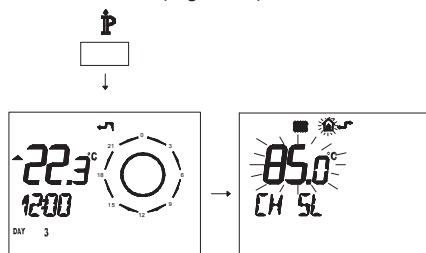

Fig. 7.25
- Press button **P** for more than 3 seconds to enter in **INFO** (Fig. 7.25) mode.